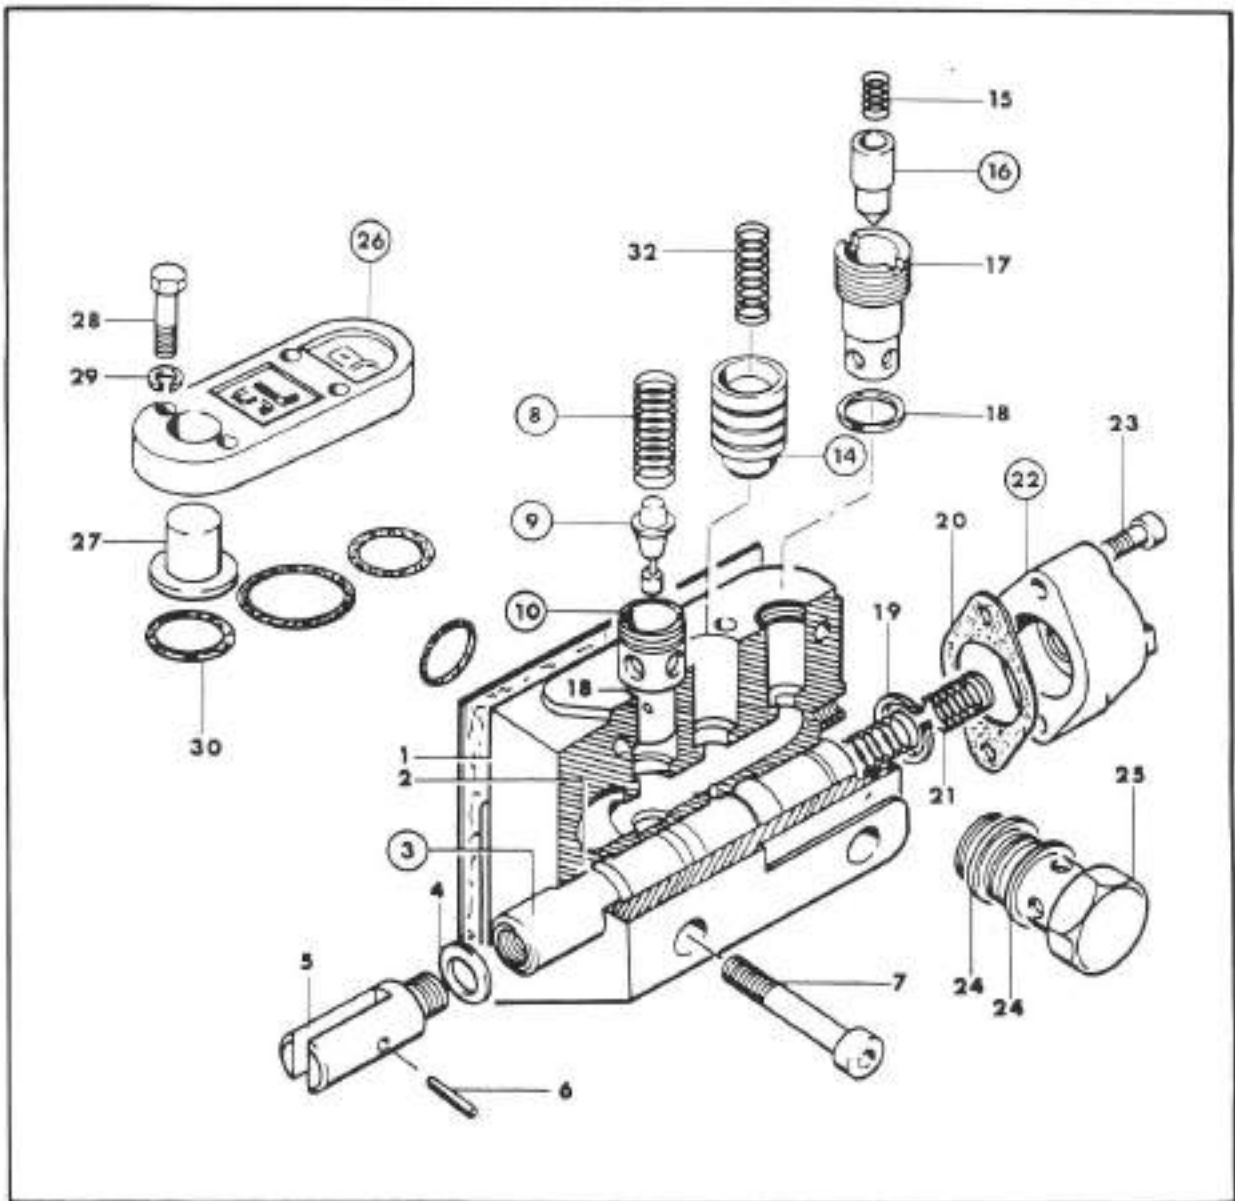

Fig. 3-81. Power - lift distributor - tractor Mod. 75
Refer to figure 3-81.
The lift does not raise even without a load.	<ol style="list-style-type: none"> 1. Lack of oil. Restore the oil level. 2. Jamming pilot valve (14; fig. 3-81) caused by impurities contained in the oil. Unscrew the four screws holding the cover (26) then unblock and clean the valve. To prevent the repetition of this problem, carefully clean the return oil filter cartridge (figure 3-76).